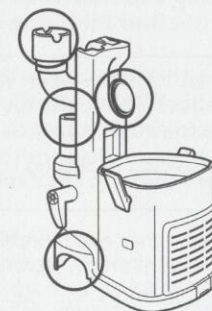

Fig. 29
- Remove the dust cup and wand and detach the canister from the motorized floor nozzle. Check all openings for any blockages. (Fig. 29)